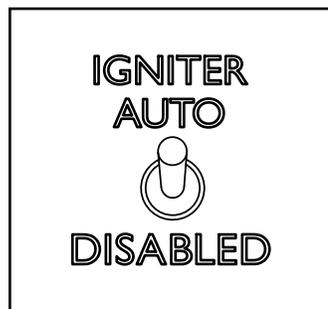
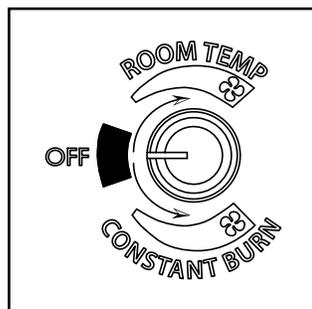

Figure 4.4
Figure 4.5
4. Flip toggle switch to desired mode “Auto or Disabled”. Figure 4.4. Set feed limit knob to desired setting and turn mode dial to “Room Temp” or “Constant burn” Figure 4.5. **Note:** Feed rate of #4 is a good starting point. Adjustments may need to be made depending on fuel quality and/or heat output desired.